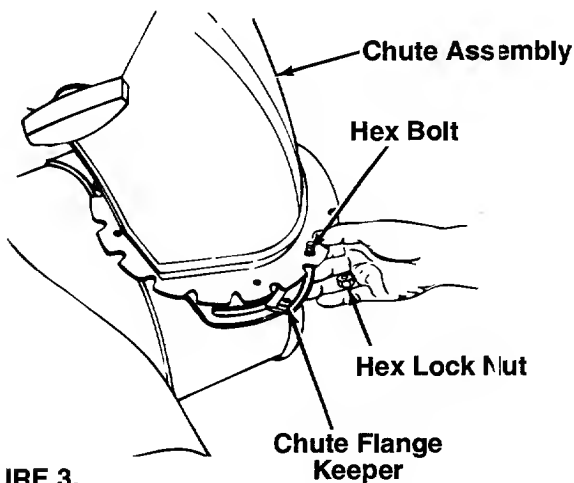

FIGURE 3.
- Place chute assembly over chute opening, with the opening in the chute assembly facing the front of the unit. Place chute flange keepers beneath lip of chute assembly. Insert hex bolt up through chute flange keeper and chute assembly as shown in figure 3. Secure with hex lock nut. After assembling all three chute flange keepers, tighten then back off 1/4 turn to allow easier movement.